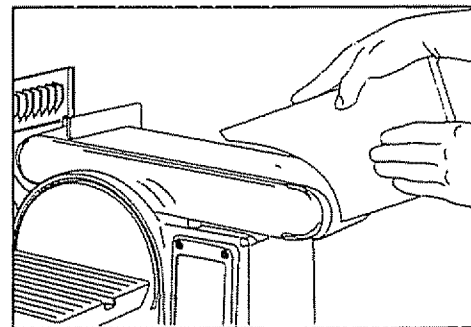

Fig. 20
■ Sanding inside curves (see figure 20)